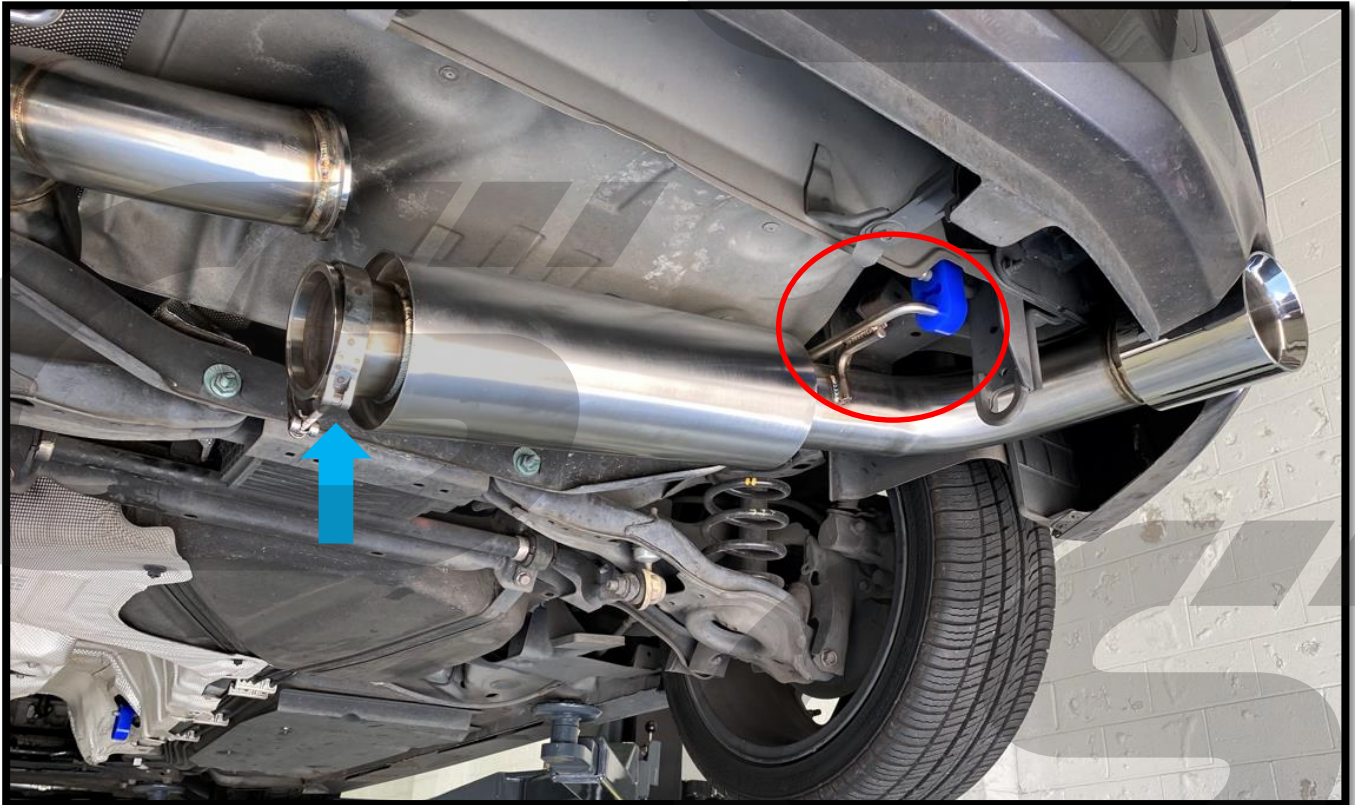

Figure 6e
- c) Install the remaining two supplied hangers on the rearmost hanger locations on the vehicle. The exhaust was removed from these locations in Steps 4f and 4g. These hangers locations are shown with **red circles** in **Figure 6d** and in **Figure 6e** on the next page.
- e) Lift the L-shaped CorkSport 3.5" passenger side tip section into position and insert the hanger rod through the supplied hanger installed earlier. Shown completed in **Figure 6e**. The exhaust should hold itself in position as shown, however, we recommend having a friend help or using a jack stand to ensure it does not fall.
- f) Place a supplied V-band clamp over the end of the passenger side tip section, near the flange. Shown with **blue arrow** in **Figure 6e**.